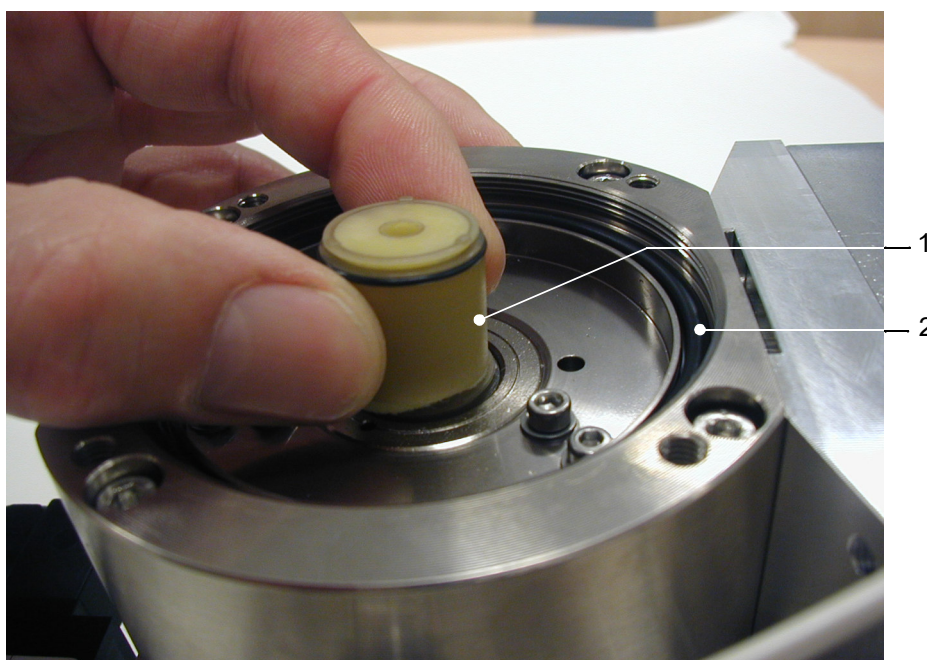

Fig. 7-4 Replace oil wick cartridge
See Fig. 7-4 for more information.
- 8 Replace O-ring (Fig. 7-4/2) with a new O-ring. Make sure that the new O-ring is inserted in the correct position. An incorrectly mounted O-ring will result in gross leaks, which lead to a malfunction of the device.